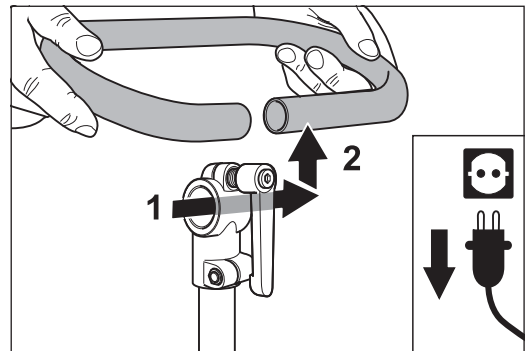

Fig. 17 Removing the handlebar.
- 3 Pull the handlebar out of the clamping piece and remove it upward (fig. 17). Put the handlebar aside.